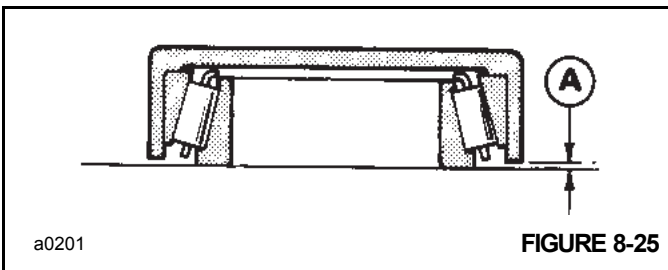

FIGURE 8-25
2. Place the pinion bearing measuring cup over the bearing assembly Figure 8-25. Measure gap A. Add tool depth of 30.1 mm. (1.18 in) to gap A to give bearing depth.